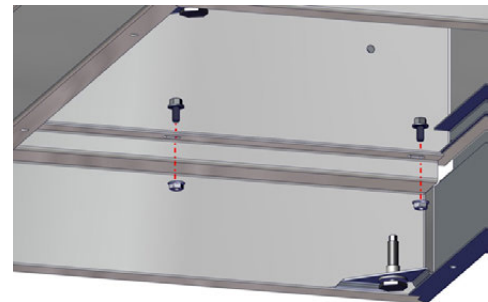

Fig. 10: Attach Base and Cabinet
6. Secure the cabinet to the base using the Locking Hex Bolts and Flanged Hex Nuts (provided) in the six holes on the sides of the base and cabinet (Fig. 10).